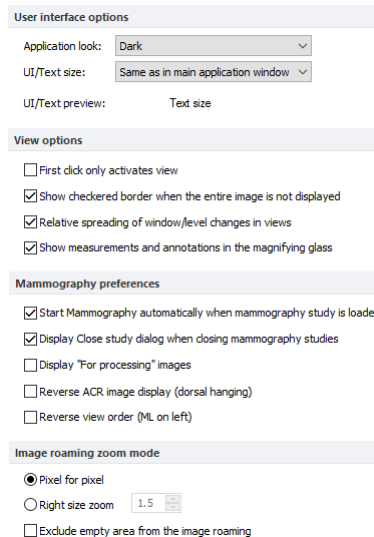

**Figure 76 – Monitor calibration**
2. The **Full screen calibration** dialog is displayed on the selected monitor (see Figure 76).